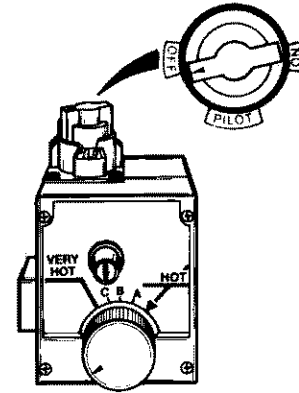
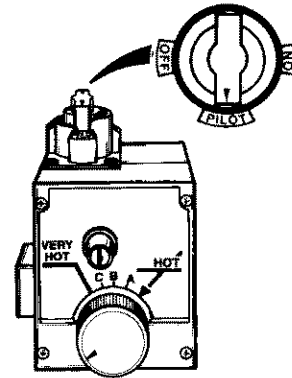
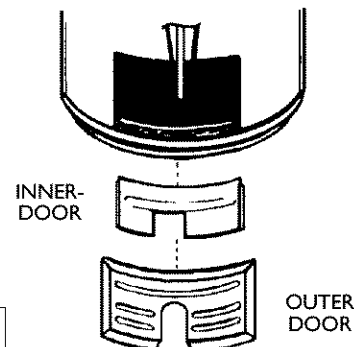

Figure 5
Figure 6
Figure 8
4. Turn gas control knob clockwise (↻) to "OFF" position. Knob cannot be turned from "PILOT" to "OFF" unless knob is depressed slightly. **DO NOT FORCE.** (Figure 5, page 19)
5. Wait five (5) minutes to clear out any gas. If you then smell gas, STOP! Follow "B" in the safety information above on this label. If you don't smell gas, go to the next step.
6. Remove (or open) inner door located below the gas control unit. (Figure 8, page 19)
8. If you don't smell gas, turn knob on gas control counter-clockwise (↺) to "PILOT" position. (Figure 6, page 19)
9. Push in control knob all the way and hold down. Immediately light the pilot with a match. Continue to hold control knob in for about one (1) minute after the pilot is lit. Release knob and it will pop back up. Pilot should remain lit. If it goes out, repeat steps 4 through 9.
- If the pilot will not stay lit after several tries, depress and turn the gas control knob clockwise (↻) to "OFF" and call your service technician or gas supplier. (Figure 5, page 19)
10. Replace (or close) inner door. Replace outer door if door does not cover gas control on/off knob or temperature adjustment knob. (Figure 8, page 19)
2. Turn gas control knob clockwise (↻) to "OFF" position. Knob cannot be turned from "PILOT" to "OFF" unless knob is depressed slightly. **DO NOT FORCE.** (Figure 5)